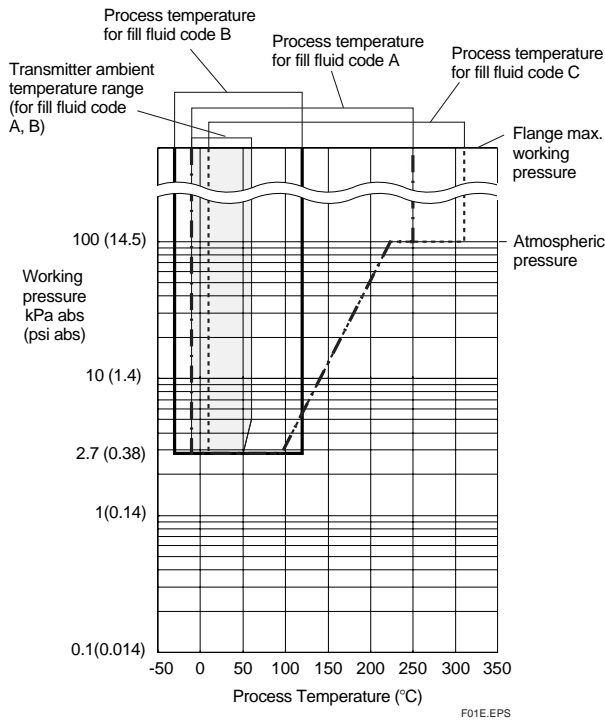

Figure 1-1. Working Pressure and Process Temperature
For atmospheric pressure or below, see figure 1-1 and 1-2.
*1: See figure 1-1 and 1-2 ‘Working Pressure and Process Temperature.’